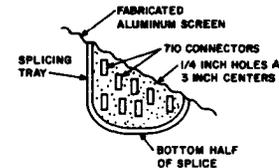

Fig. 8—Placing Screen Across Splice (16-Type Closure)
(3) Dress the completed half of the splice against the tray and place the screen as shown in Fig. 8.